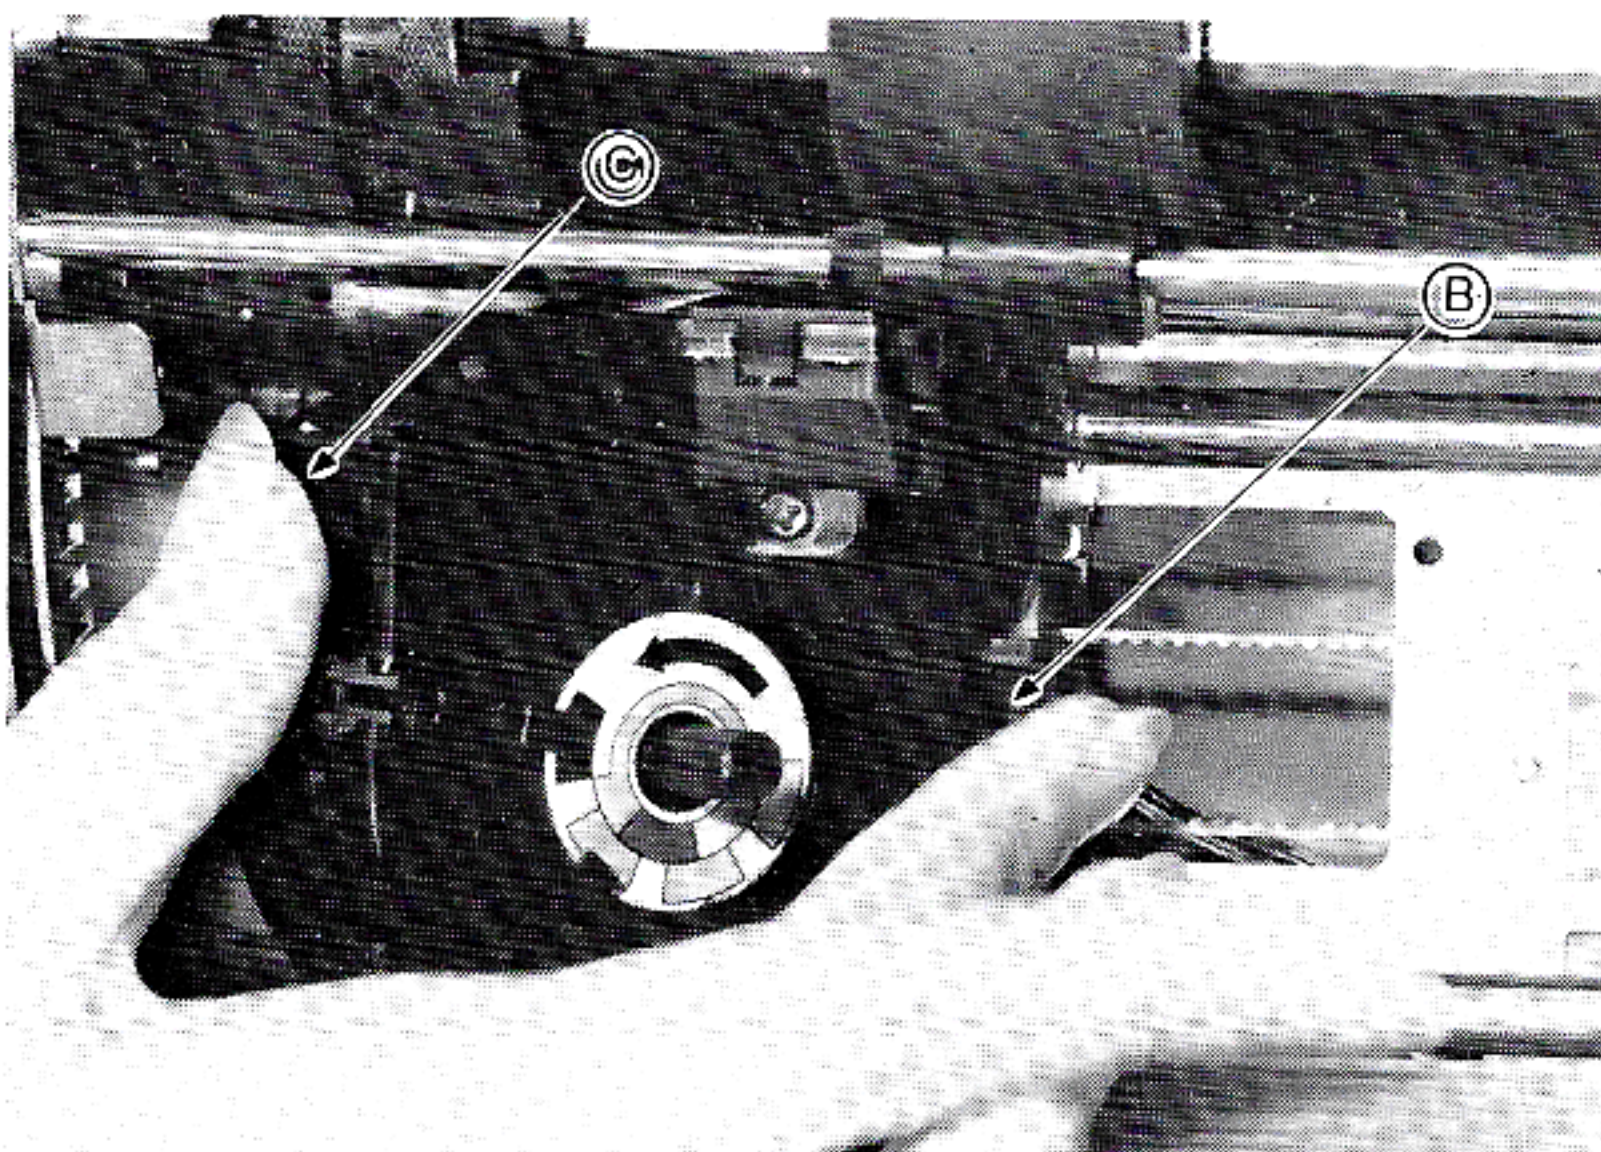

Figure 8
a) The ink cassette is easily removed by grasping the cassette as shown in figure 8 with the thumb on part C and the middle finger on part B, squeezing gently, and lifting up. The cassette knob should be turned in the direction of the arrow to tighten the ribbon.